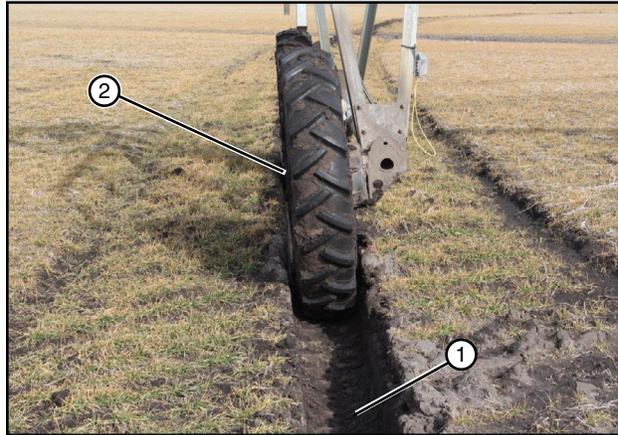

Figure 50-1 1. Wheel Track
1. Remove the drain plug with an allen wrench and completely drain the oil. See Figure 50-1.
2. Replace the drain plug and refill with Valley Gear Lube. See Figure 50-1.
3. Refill the gear case to within 1/2 inch (12.7 mm) of the bottom of the fill plug. See Figure 50-1.
It is important to maintain wheel tracks. See figure 50-1.